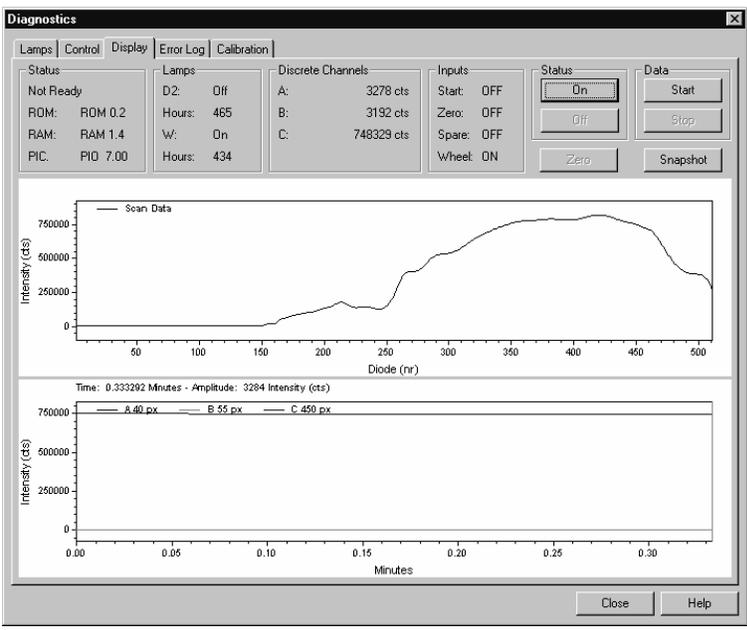

Figure 4.3 Intensity Scan with W Lamp
14. Figure Click on the Status-Off and Data-Stop buttons. Go to the Lamps page and turn the tungsten - halogen (W) lamp on.
16. Go to the Display page and once again click on the Status-On and Data-Start buttons. See Figure 4.3. Use the Print Screen key to print out a copy of the scan. This scan should also be kept for future comparisons to see if there is any intensity degradation. Date the printout and add it to your maintenance records.